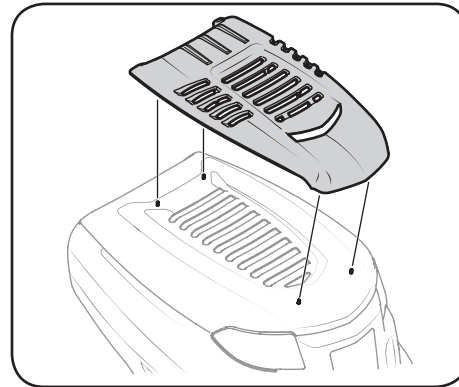

Figure 2-11
3. Snap the hood scoop into place using the hood as your guide. See Figure 2-11.